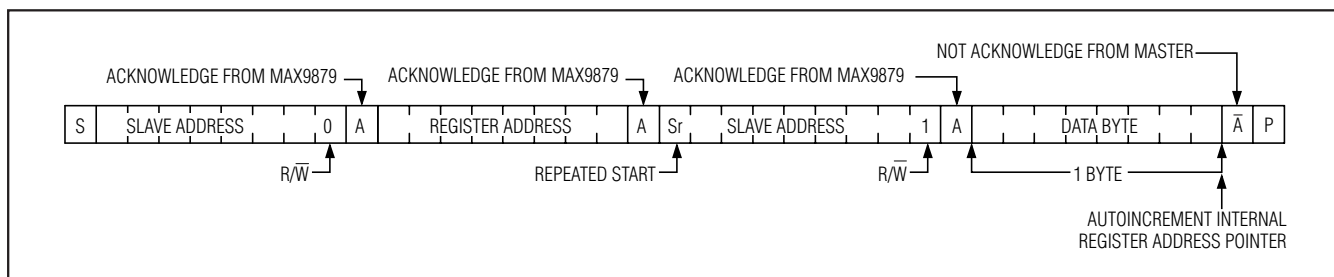
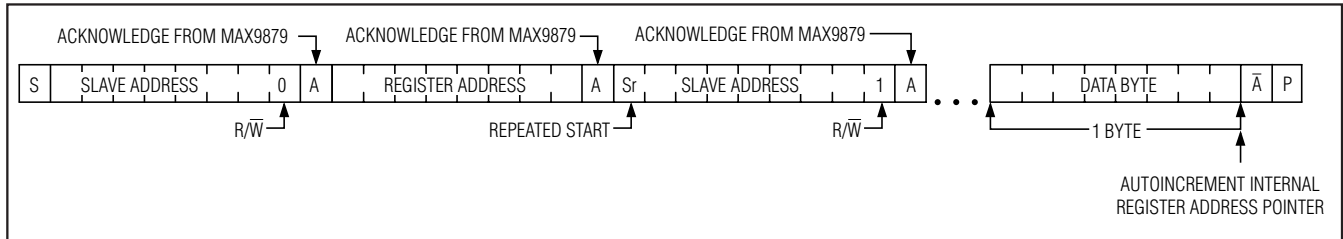

Figure 11. Reading One Indexed Byte of Data from the MAX9879
Figure 12. Reading *n* Bytes of Indexed Data from the MAX9879
The address pointer can be preset to a specific register before a read command is issued. The master presets the address pointer by first sending the MAX9879's slave address with the $R/\bar{W}$ bit set to 0 followed by the register address. A REPEATED START (S_r) condition is then sent followed by the slave address with the $R/\bar{W}$ bit set to 1. The MAX9879 then transmits the contents of the specified register. The address pointer autoincrements after transmitting the first byte. The master acknowledges receipt of each read byte during the acknowledge clock pulse. The master must acknowledge all correctly received bytes except the last byte. The final byte must be followed by a not acknowledge from the master and then a STOP (P) condition. Figure 11 illustrates the frame format for reading one byte from the MAX9879. Figure 12 illustrates the frame format for reading multiple bytes from the MAX9879.